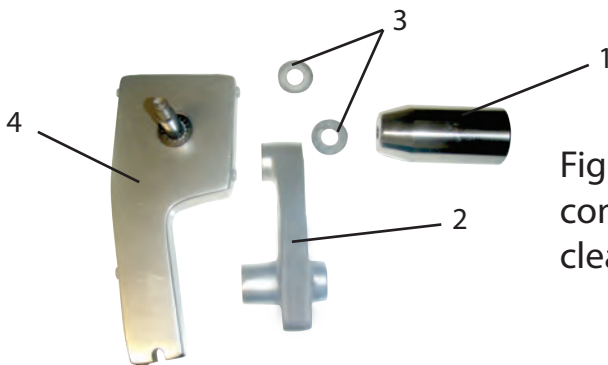

Figure 3
h. Last Slice Device: Unscrew the knob (Figure 3 [1]) and detach the support (Figure 3 [2]) and gaskets (Figure 3 [3]) from the Last Slice Device (Figure 3 [4]). Set items aside for cleaning.